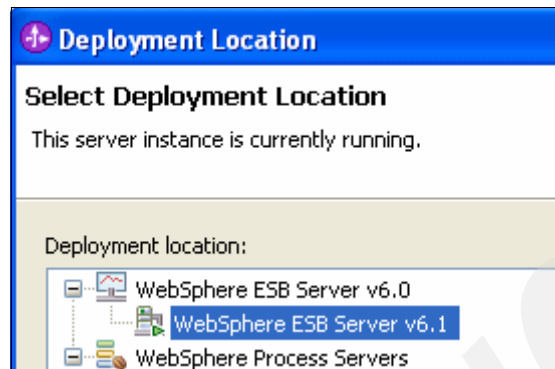

Figure 4-23 Select WebSphere ESB as the deployment location
5. Launch the invocation by clicking the **Continue** icon (  ). Select **WebSphere ESB Server v6.1** as the test environment (Figure 4-23). If the server has administrative security enabled, provide the user ID and password when requested.